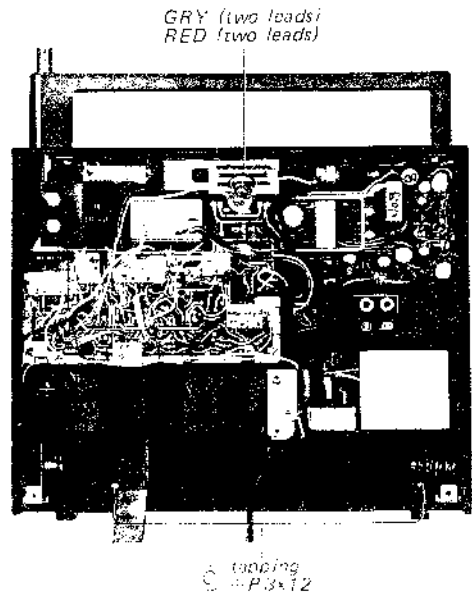

Fig. 2-3. Chassis removal
5. Unsolder the four lamp leads, GRY and RED, shown in Fig. 2-3.
6. Remove the two screws marked **C** in Fig. 2-3.